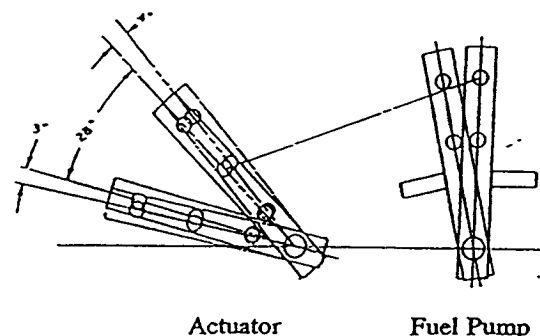

Figure 2: Non-Linear Linkage
- Dimensions See Figure 2
For reduced gain and greater stability at light load, reposition the actuator arm as shown on Figure 2. Be sure the linkage is free of any obstructions, friction, or binding. Before starting the engine, manually push the actuator to the full fuel position